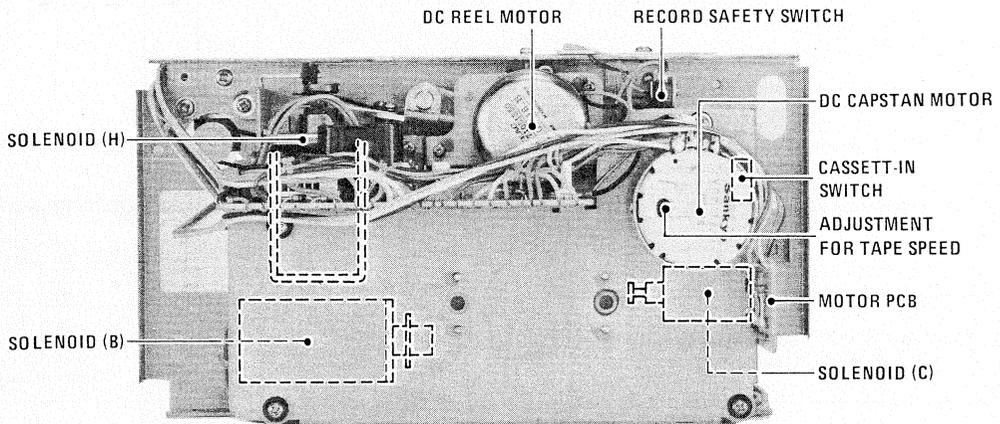

Fig. 2-3
**Note:** For solenoid location, refer to Fig. 2-3.
- a. When in the play mode, clearance (A) should be obtained at both the left and right pinch roller sides.
**Note:** For switch location, refer to Fig. 2-3.